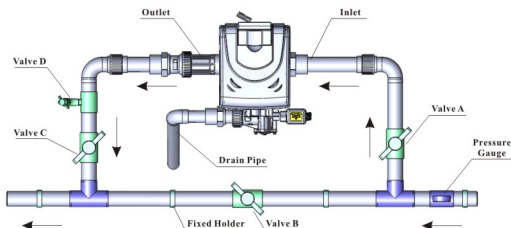

Figure 1-3
a. As Figure 1-3 shows, install a pressure gauge in water inlet.